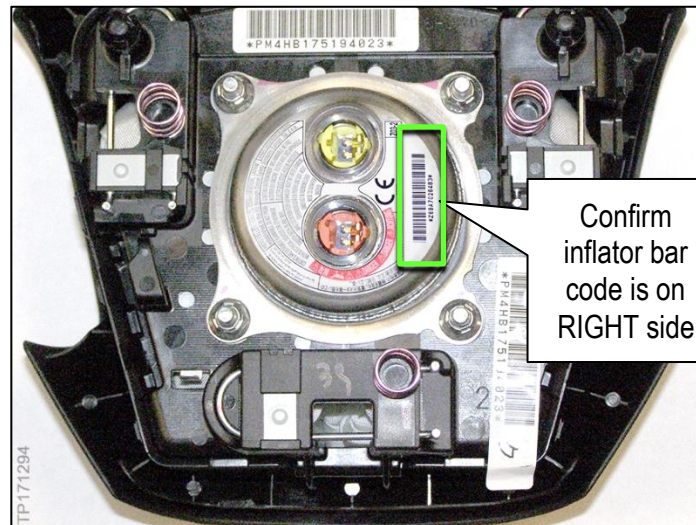

Figure 9
11. Install the new inflator from the Parts Information into the module as shown in Figure 9.